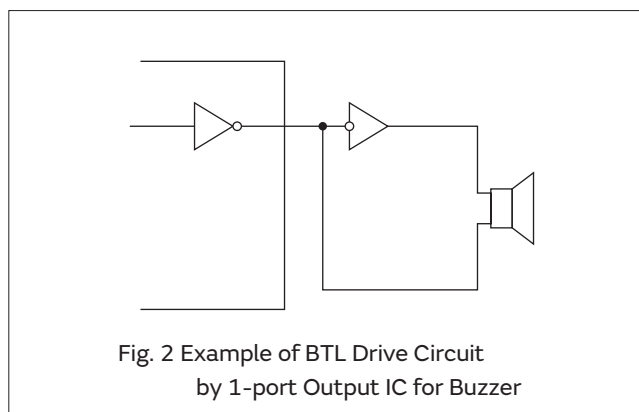

Fig. 2 Example of BTL Drive Circuit
A piezoelectric ceramic plate is attached to a metal plate with adhesives. Fig. 2 shows the oscillating system of a piezoelectric diaphragm.
Applying DC voltage between electrodes of a piezoelectric diaphragm causes mechanical distortion due to the piezoelectric effect. For a misshapen piezoelectric element, the distortion of the piezoelectric element expands in a radial direction, and the piezoelectric diaphragm bends toward the direction shown in Fig. 2 (a). The metal plate bonded to the piezoelectric element does not expand. Conversely, when the piezoelectric element shrinks, the piezoelectric diaphragm bends in the direction shown in Fig. 2 (b). Thus, when AC voltage is applied across electrodes, the bending shown in Fig. 2 (a) and Fig. 2 (b) is repeated as shown in Fig. 2 (c), producing sound waves in the air.
- (2) In a case that is driven by IC directly like as Fig. 2, input voltage of Piezoelectric sound components should be twice as high because of the BTL (Bridge Tied Load) drive circuit, which includes an inverter.